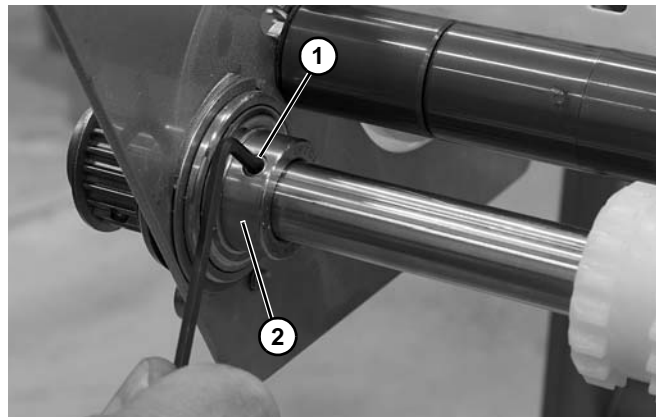

Figure 75
5. Tighten two set screws (**Figure 75, item 1**) on bearing (**Figure 75, item 2**) on both sides of the power transfer.